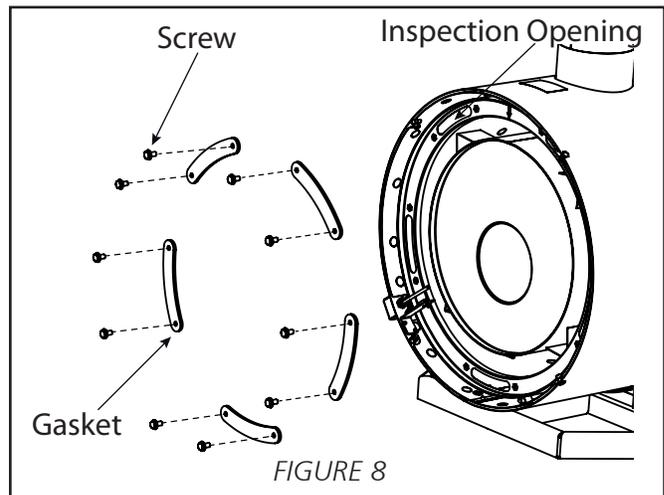

FIGURE 8
2. Remove the plates, which close the inspection openings, by removing the screws. See Figure 8.